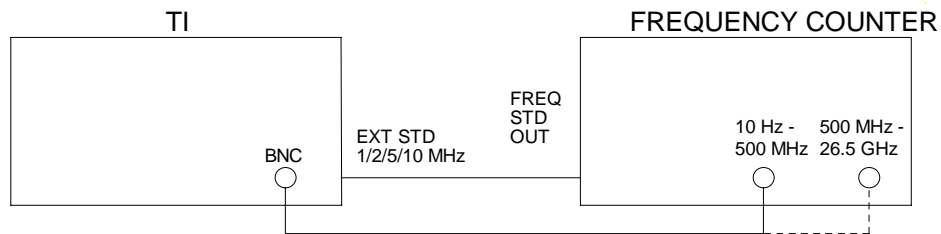

Figure 1.
4.1.9 Connect equipment as shown in Figure 1. Set the Frequency Counter for a 10 Hz display resolution.